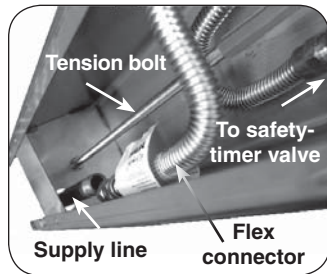

Fig. 8-2
3. Verify that the gas supply line fits through the gas line clearance hole in the bottom of the post (see Fig. 8-2). The clearance hole is the larger of the two holes in the bottom of the post and is off center.
5. Attach the extension to the bottom of the grill post so that the open portion is toward the back of the grill and the five holes in the extension line up with the five (5) weld-nuts in the post.